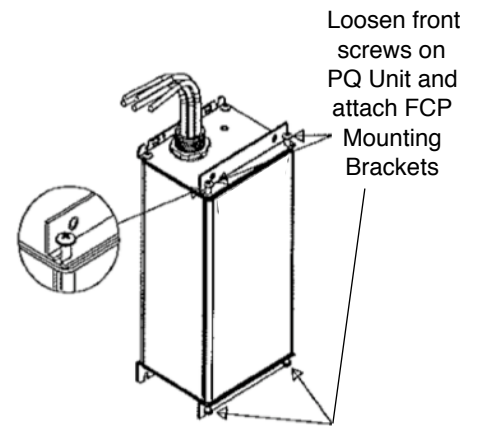

FIGURE 1
2. Loosen front screws in PQ end plates as shown in FIGURE 1. Apply CFP Mounting Brackets and retighten PQ screws.